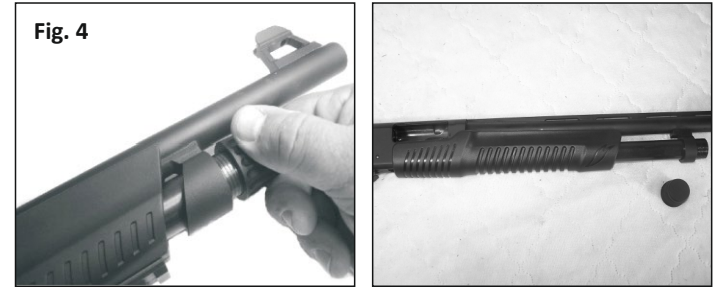

Fig. 4
4. Unscrew the magazine cap by turning it in a counter clock-wise direction until easily detached (refer to Fig. 4)
1. Unscrew the magazine cap by turning it in a counter clock-wise direction until easily detached (refer to Fig. 4)